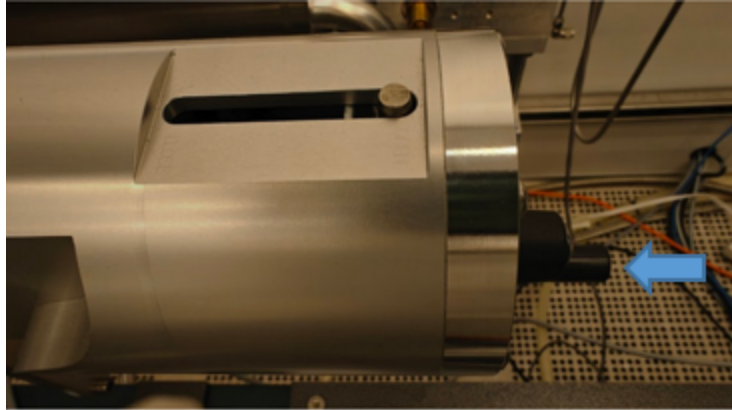

Figure 11: Blue arrow shows where lever to adjust the bottom cryo valve opening is located. This is behind the materials turret.
- b. See figure 11 for the location of the bottom cryo lever.